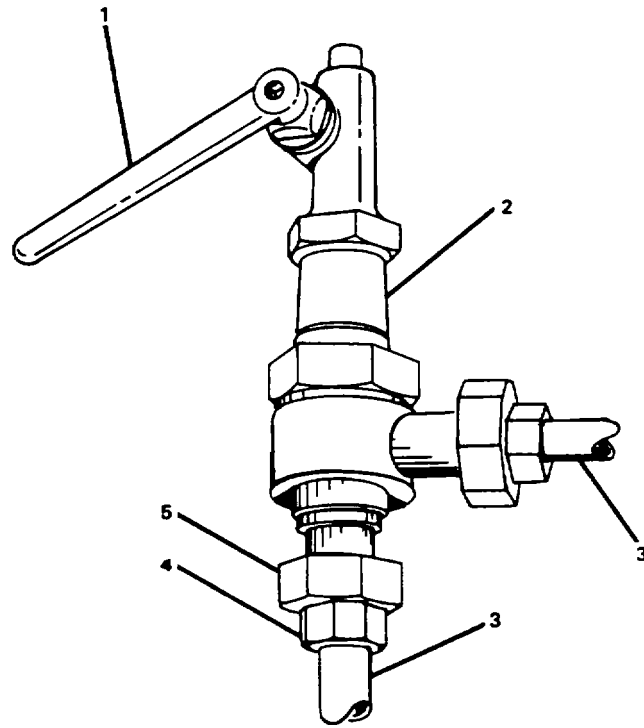

Figure 2-99. Remove Relief Valve.
- a. Position lever (1, Figure 2-99) in line with valve body (2).